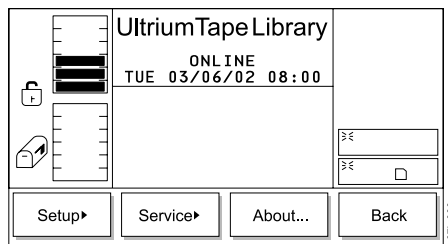

Figure 121. Main Menu (alternate screen)
1. From the Main Menu's initial screen, press the button below the **More** softkey. The Main Menu's alternate screen displays (see Figure 121).